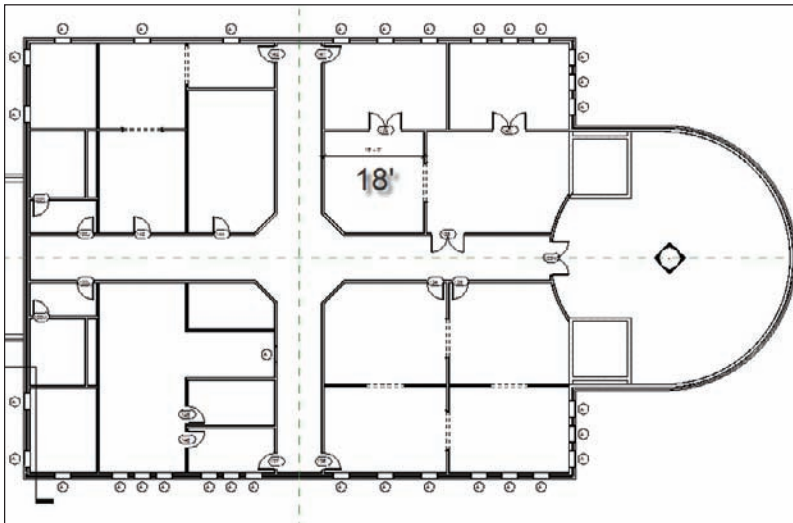

FIGURE 4.56 Level 3: This was mostly copied from Level 1 with the exception of the 18'-0" room that was added.
8. Go to Level 3, and create a floor plan similar to Figure 4.56. We did this by using Copy And Paste > Aligned To Selected Levels from Level 1. We added one wall to the northeast suite.